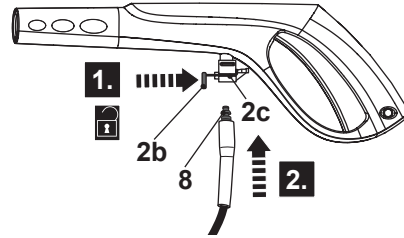

Fig. 4
- > Push the hose release (2b) and hold it in position (Fig. 4, step 1).
- > Insert the connector of the pressure hose (8) into the hose connection port (2c) of the spray gun (2). Ensure it snaps in place (Fig. 4, step 2).